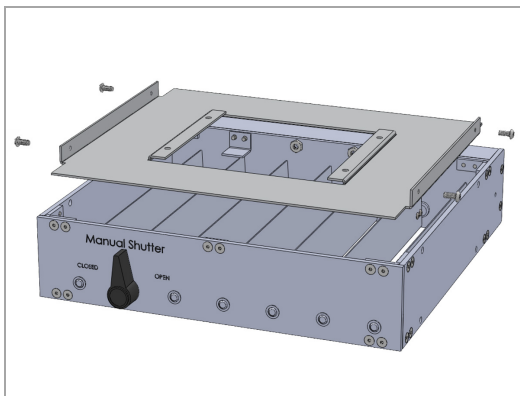

Figure 1. Remove 5000-EC Reflector Support Plate
3. Unpack the manual shutter. The shutter is shipped with the 5000-EC reflector support plate installed. Remove the support plate by removing the four 8-32 x 3/8" screws (Figure 1).